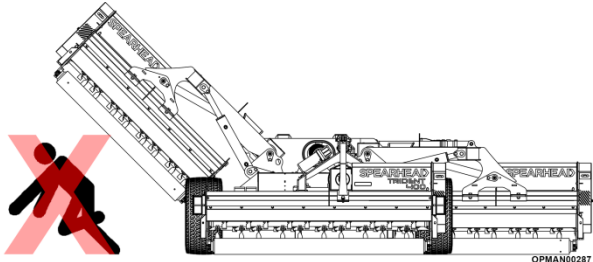

Figure 5.50
5.6.2.1 Clear the area of all personnel before lowering the wings; see Figure 5.50.